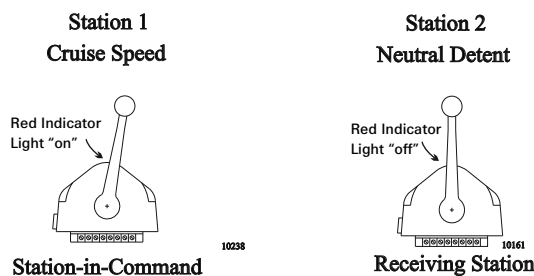

Figure 2-7: Remote Stations Before Transfer of Command
- B Place the Control Head's lever(s) of the receiving Station in the Neutral/Idle detent position (refer to Figure 2-7: Remote Stations Before Transfer of Command)